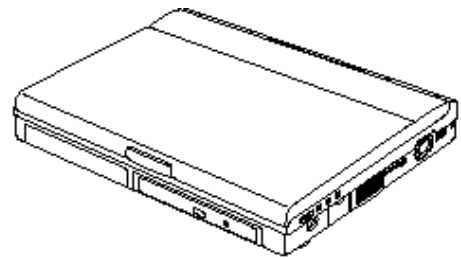

Figure 1-1 LifeBook 200 Series Notebook
- LifeBook 200 Series notebook from Fujitsu. (Figure 1-1.)